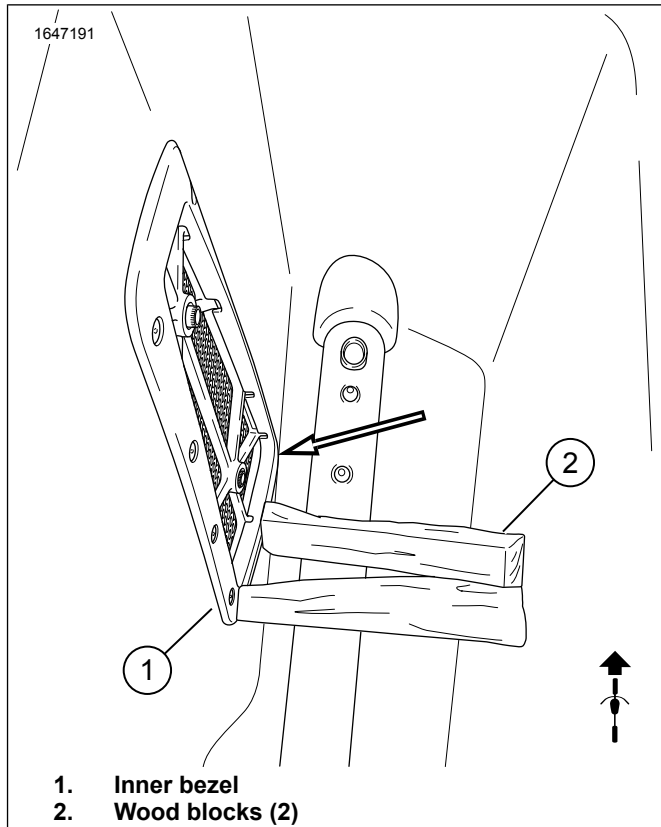

Figure 14. Wooden Wedge
9. See Figure 14. To maximize seal performance, use wooden wedges on inner bezel (1). Hold in place for 24 hours.